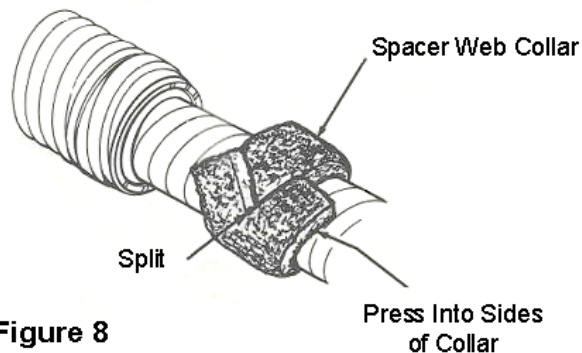

Figure 8
3. Split the overlapping 1/4 layer of 3M™ Scotchcast™ Spacer Web and press into sides of the collar. (Figure 8)